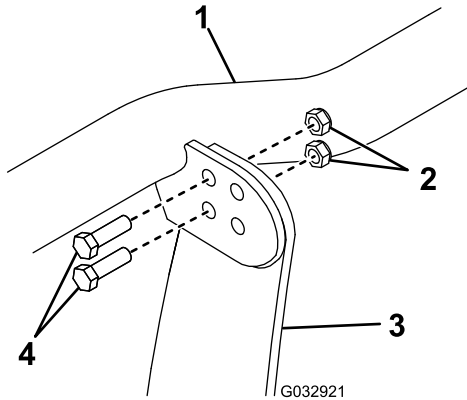

Figure 11
1. Secure the light bar to the top of the coupler tower through the rear holes using 4 bolts (3/8 x 1-1/4 inch) and self-locking nuts (3/8 inch) (Figure 11). Torque the bolts to 31 N·m (23 ft-lb).